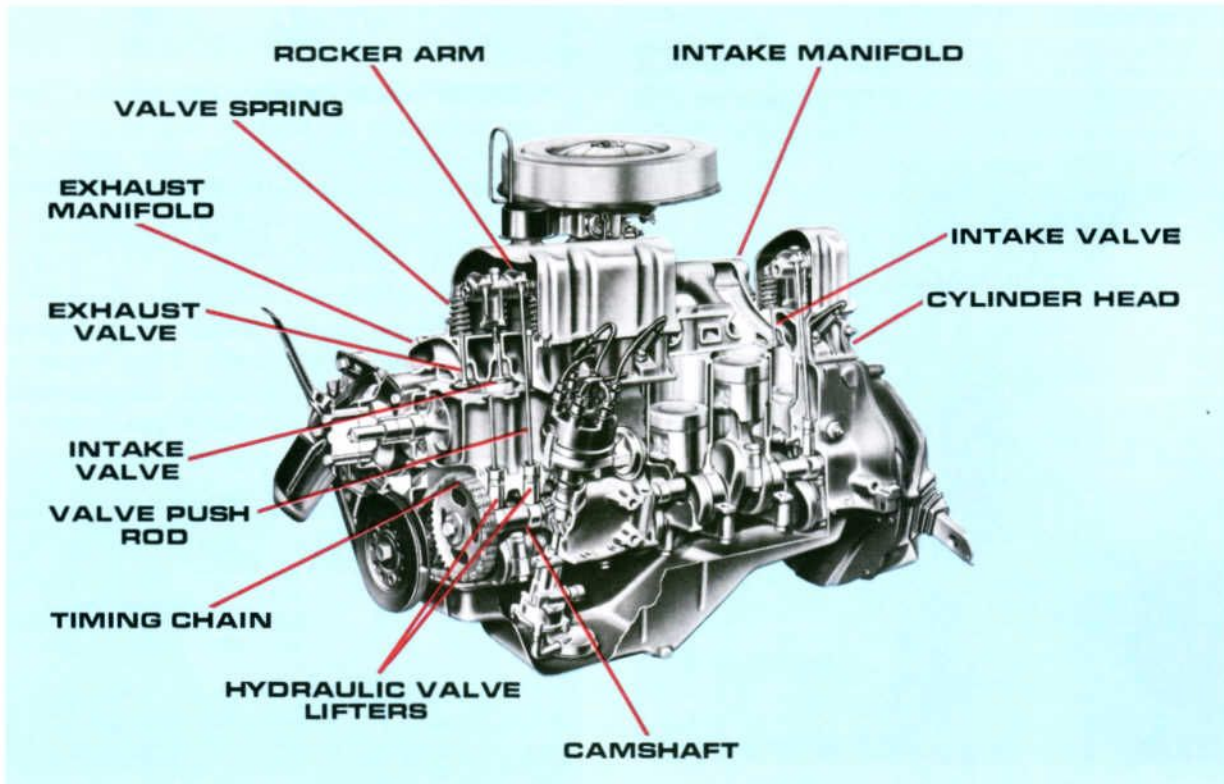

FIGURE 7. VALVE TRAIN
- The *valve train*, valve size, and duration of valve opening affect the engine's ability to breathe under various load and speed conditions. The camshaft design will determine the amount of valve overlap and the duration of valve opening. Figure 7 illustrates a typical valve train. It is provided so that you may more readily see how the components perform their design function. Most mechanical factors . . . gears, levers, fulcrums, etc. . . . are involved. The camshaft is driven by either a gear or a chain (depending upon engine design) in response to the rotary motion of the crankshaft. A cam-follower (lifter) sits on top of the eccentric (egg-shaped) cam and converts the rotary motion of the revolving cam into linear (straight, up-and-down) motion through the pushrod and rocker arm assembly. The rocker arm then pushes the valve open and the counterforce of the valve spring causes it to close when the cam has passed its high point.